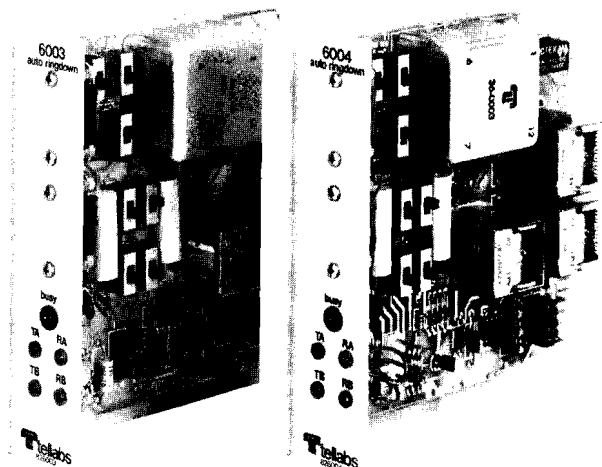
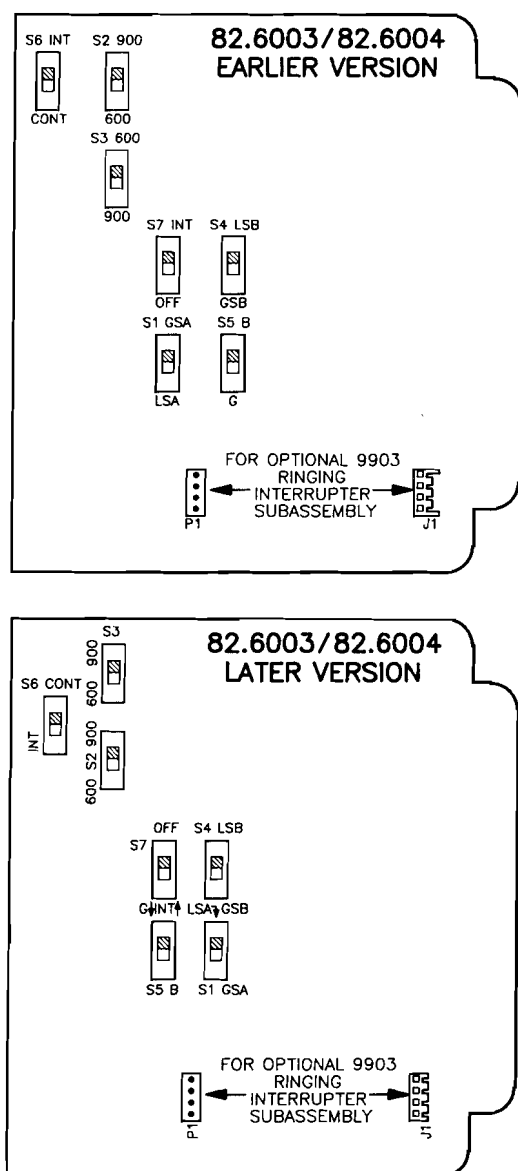

figure 1. 6003 and 6004 2Wire Automatic Ringdown modules
figure 4. Option switch locations
1.02 This practice section is revised to add a second option-switch-location diagram in section 3. This new diagram shows option-switch locations and designations for a second, later manufacturing version of the Issue 2 6003 and 6004 modules (Tellabs part numbers **826003** and **826004**). This later version is not documented in previous practice revisions. Please be aware that the earlier and later versions of the 6003 and 6004 are functionally identical. However, the location and orientation of several printed-circuit-board option switches on the later version of each module are changed with respect to the earlier version. The changes are obvious enough that the two versions are easily distinguishable from one another, although it should be noted that the earlier version may have either an aluminum front panel with visible screw heads protruding (as shown in figure 1) or a plastic front panel with no screw heads protruding. Thus, comparing your module's option switch layout to those shown in figure 4 is the only way to make certain which version you have. Additional practice changes include minor corrections to the block diagram, section 5 of the practice, and updated information in the text portion of section 7.
3.05 Neither 6003 nor 6004 module requires alignment. Several switch options are provided, however, to condition the module for specific applications. Each module should be correctly optioned before being plugged into place. Figure 4 illustrates the position of the various 6003/6004 option switches. Switches are labeled on the module as shown in figure 4.